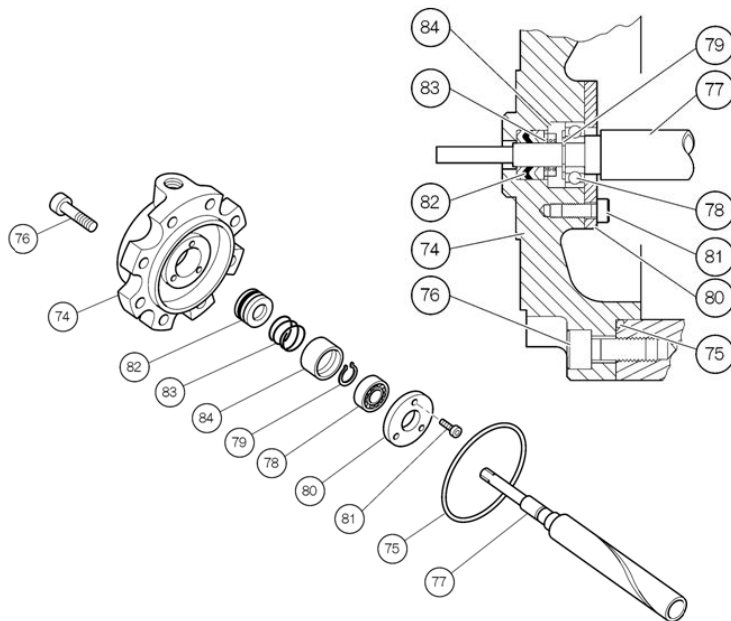

Figure 5-19 Unloader Cover Block
- d) Sufficiently apply oil on the unloader cover [74], and install the V-ring set [82] in it. One of the rings of the V-ring set (i.e., dark colored one) is made of rubber to improve the sealing performance, and is placed as the second item from the outside as shown in Fig. 5-19. The orientation of the V-ring must be such that the apex of the V-shape faces the outside and the lips face inside.